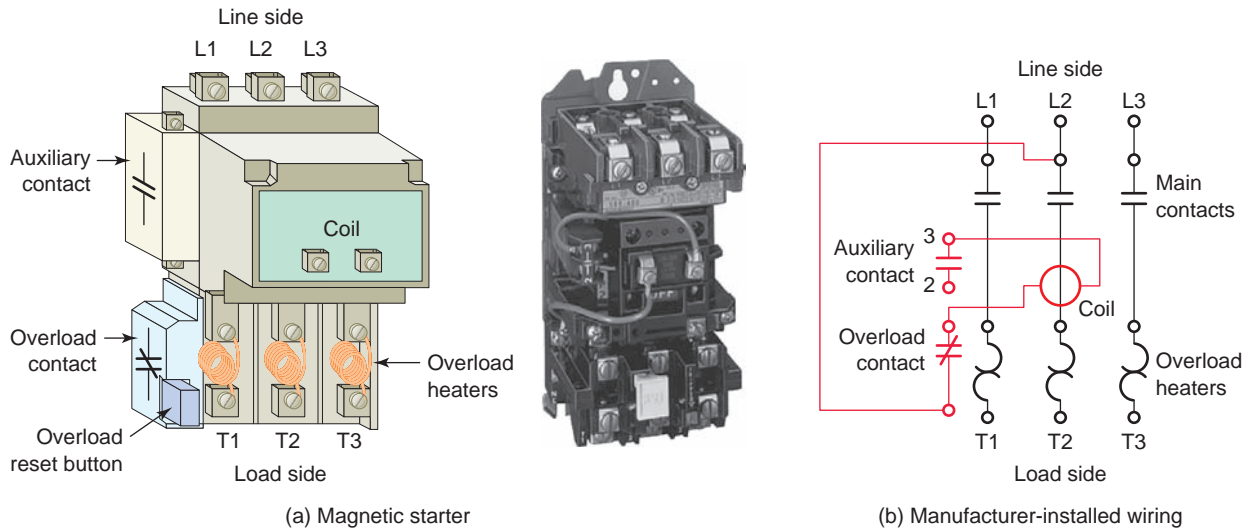

Figure 6-29 Magnetic motor starter.
The basic use for the magnetic contactor is for switching power in resistance heating elements, lighting, magnetic brakes, and heavy industrial solenoids. Contactors can also be used to switch motors if separate overload protection is supplied. In its most basic form, a magnetic motor starter (Figure 6-29) is a contactor with an overload protective device, known as an overload relay (OL), physically and electrically attached. The overload protective device protects the motor from overheating and burning up. Normally magnetic starters come equipped with some manufacturer-installed control wiring, which may include: